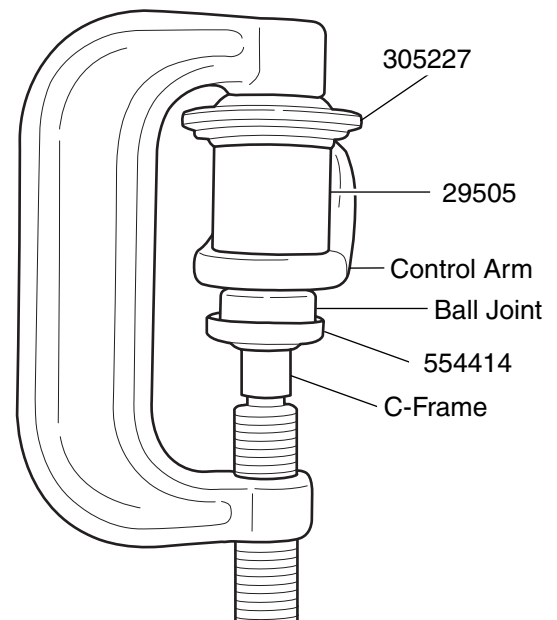

Figure 2. Ball Joint Installation
3. Position 29505 and 305227 on the ball joint as shown in Figure 2.